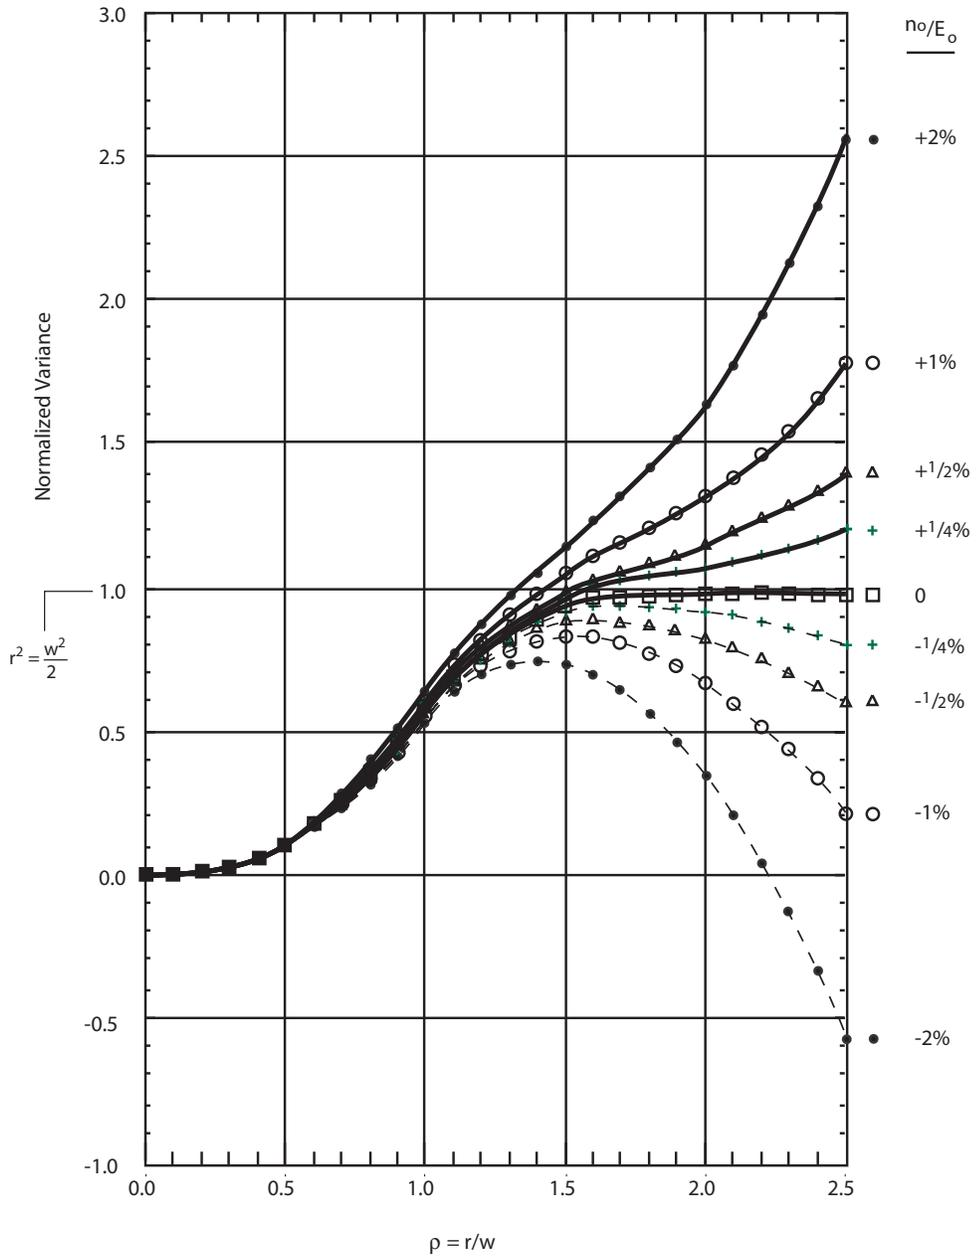
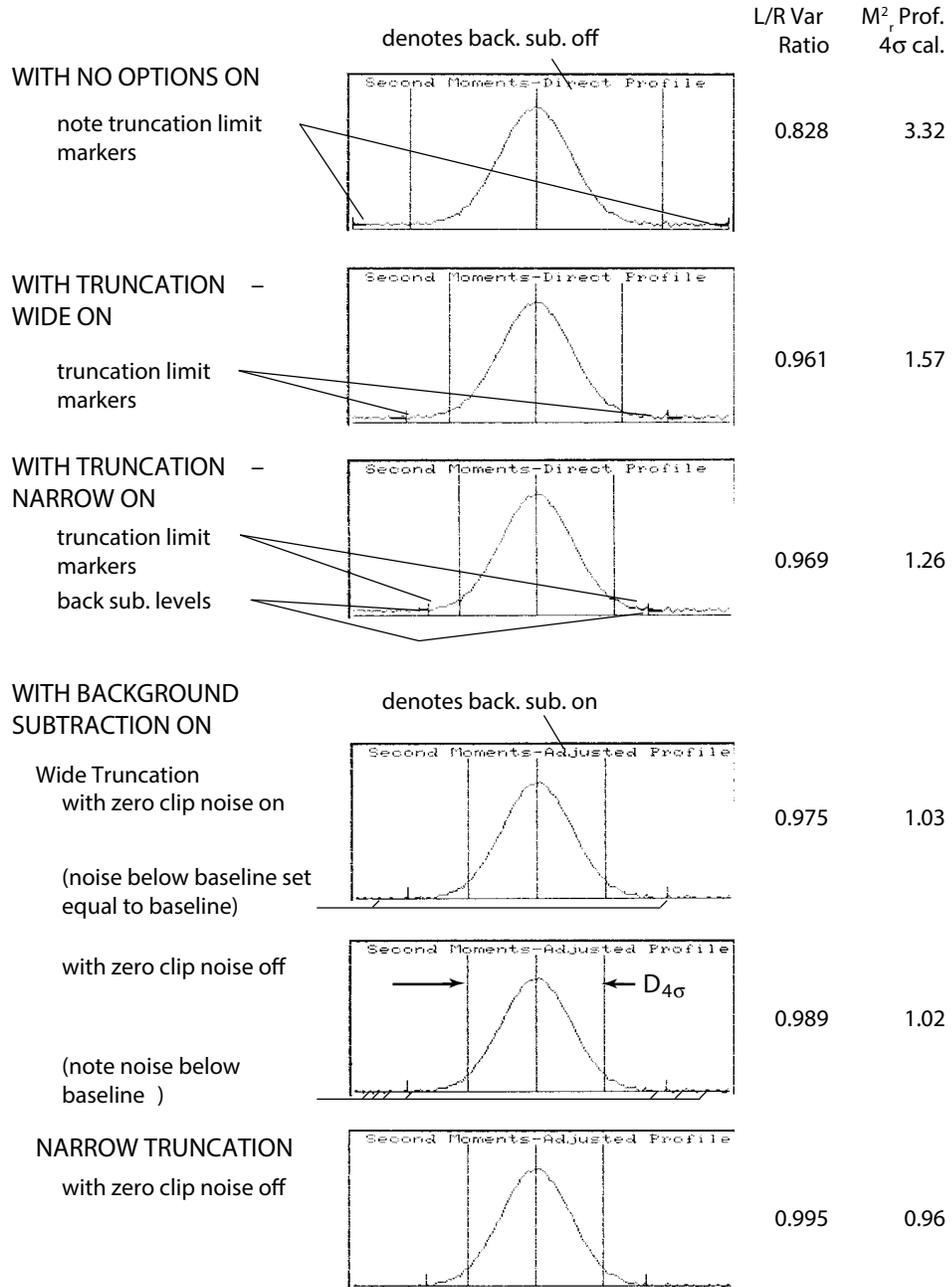

Figure 5-14. Normalized Variance for a Gaussian Mode Versus the Truncation Limit, with NoiseClip On and Off
Figure 5-15. Effect of Second Moment Options
Consider first the case when the noise is negligible,  $n_o/E_o = 0$ . The radius (measured in beam radii  $w$ ) where the integration is truncated is  $r$ ; as this increases from zero the variance grows as a sloping S-shaped curve towards the correct value of unity as more of the gaussian profile is included in the integration. The second term on the right hand side of Equation (38) is seen to give the fraction of the variance clipped by a premature truncation of the calculation; for the ModeMaster PC's Narrow truncation of  $\rho = 1.6$  the clipping error is -3.7%, and for the Wide truncation of  $\rho = 1.9$  the clipping error is -0.5% of the variance. In Figure 5-15 (p. 5-43), the observed values of  $M_r^2$  (prof.  $4\sigma$  calc.) for a gaussian profile are displayed, with various choices of second moment options, and the  $M^2$  value of 1.02 for Wide truncation is seen to drop to 0.96 for Narrow truncation. Clearly the Wide choice (the default value) is preferable for near-gaussian profiles. In the (unrealistic) noise-free case, the truncation point needs only to be greater than  $\rho = 1.9$ .
The pinhole profile background units is deliberately set at around +2% to +3% of full scale, to prevent clipping of negative-going (preamplifier) noise spikes before digitization and to preserve the full waveform for later noise averaging. With the Background Sub option Off, calculating the normalized variance to a truncation point  $r$  of a gaussian profile with this level of noise gives results similar to the  $n_0/E_0 = 2\%$  curve of Figure 5-14 (p. 5-41). At the maximum  $r = 2.5$  of that plot the normalized variance (here the same as the  $M^2$  from the profile) is 2.6, similar to the experimental value of  $M_{4\sigma}^2 = 3.3$  observed in this case for similar data in Figure 5-15 (p. 5-43) (top row). Clearly this background must be subtracted to get anywhere close to the correct value of  $M^2 = 1$ . In the ModeMaster PC, this is done with the Background Sub Option turned On (the default state).
To best illustrate the effect of different truncation limits, the results for  $M_{4\sigma}^2$  and the L/R variance ratio in Figure 5-14 (p. 5-41) are shown with Background Sub Off of changing from integration over the full window width, to Wide limits, to Narrow limits (upper half of the figure). The beam quality drops from 3.3 to 1.3 while the variance ratio approaches unity. These changes are about what is expected theoretically from Figure 5-14 (p. 5-41), with these changes in truncation limits for  $n_0/E_0 = 2\%$ . With the Background Sub On, reasonable values near unity are found for the beam quality for Wide truncation (and the L/R var ratio is closer to 1). Going to Narrow truncation in this case drops the measured beam quality below unity, due to truncation clipping error, as expected for a near-gaussian profile.
Figure 5-15 (p. 5-43) shows that with Background Sub and Truncation On, there is a slight improvement in the measured beam quality by turning Off the NoiseClip option. In principle, the best  $M_{4\sigma}^2$  (profile) value is obtained with NoiseClip Off, as this permits the effects of the positive and negative noise spikes on the wings of the profile to average to near zero.
Nevertheless, it is clear from Figure 5-15 (p. 5-43) that noise levels must be quite low to get reasonable accuracy for a second moment variance. For truncation at  $r = 1.9$ , an equivalent rectified noise level of less than 0.2% (less than 0.8% peak-to-peak amplitude) is required to be reasonably assured of 5% accuracy in the  $M_{4\sigma}^2$ (profile) result. The final use of the ZeroClip Noise option is thus to observe the change, when the option is toggled Off to get the final, best answer for the second moment beam quality. If the  $M_{4\sigma}^2$  value decreases slightly, by less than 5%, then a good job has been done on reducing beam noise and there can be confidence in the second moment results obtained.